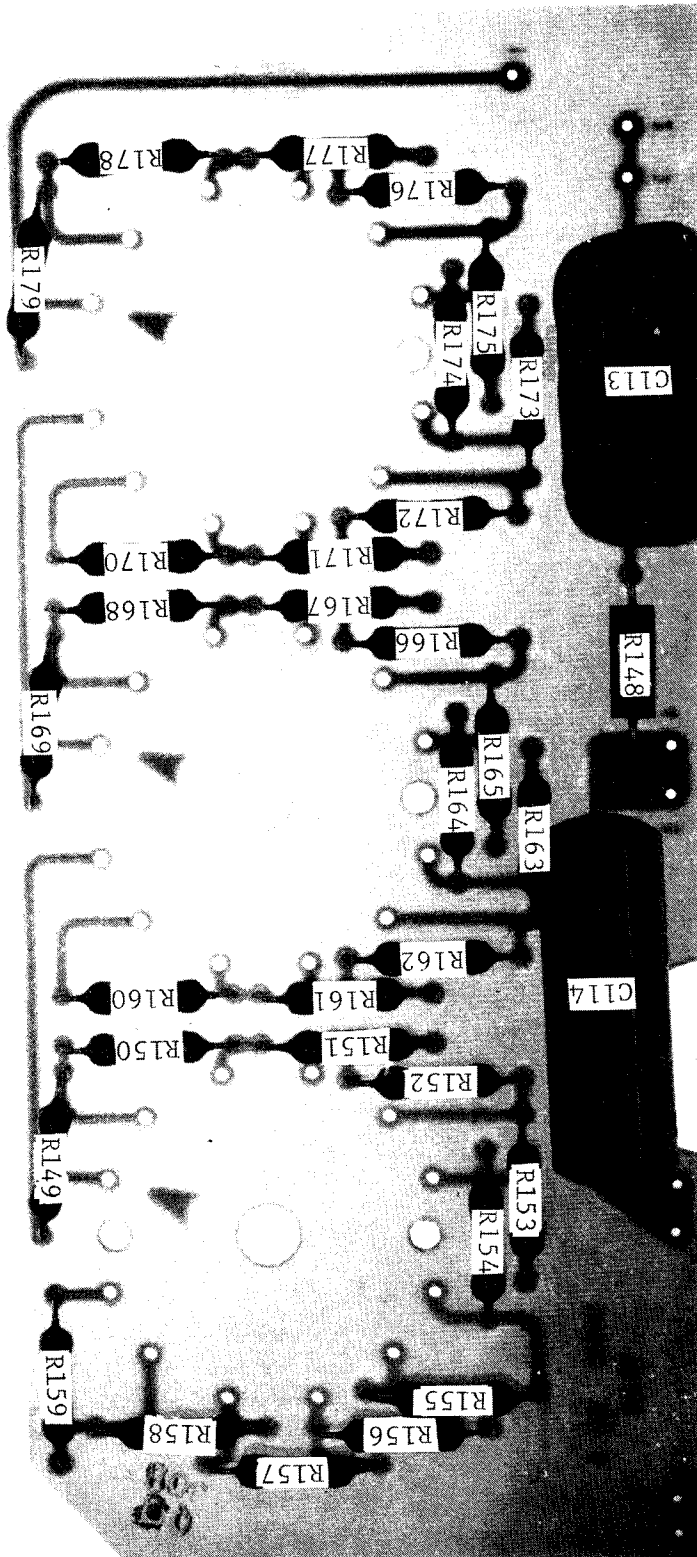
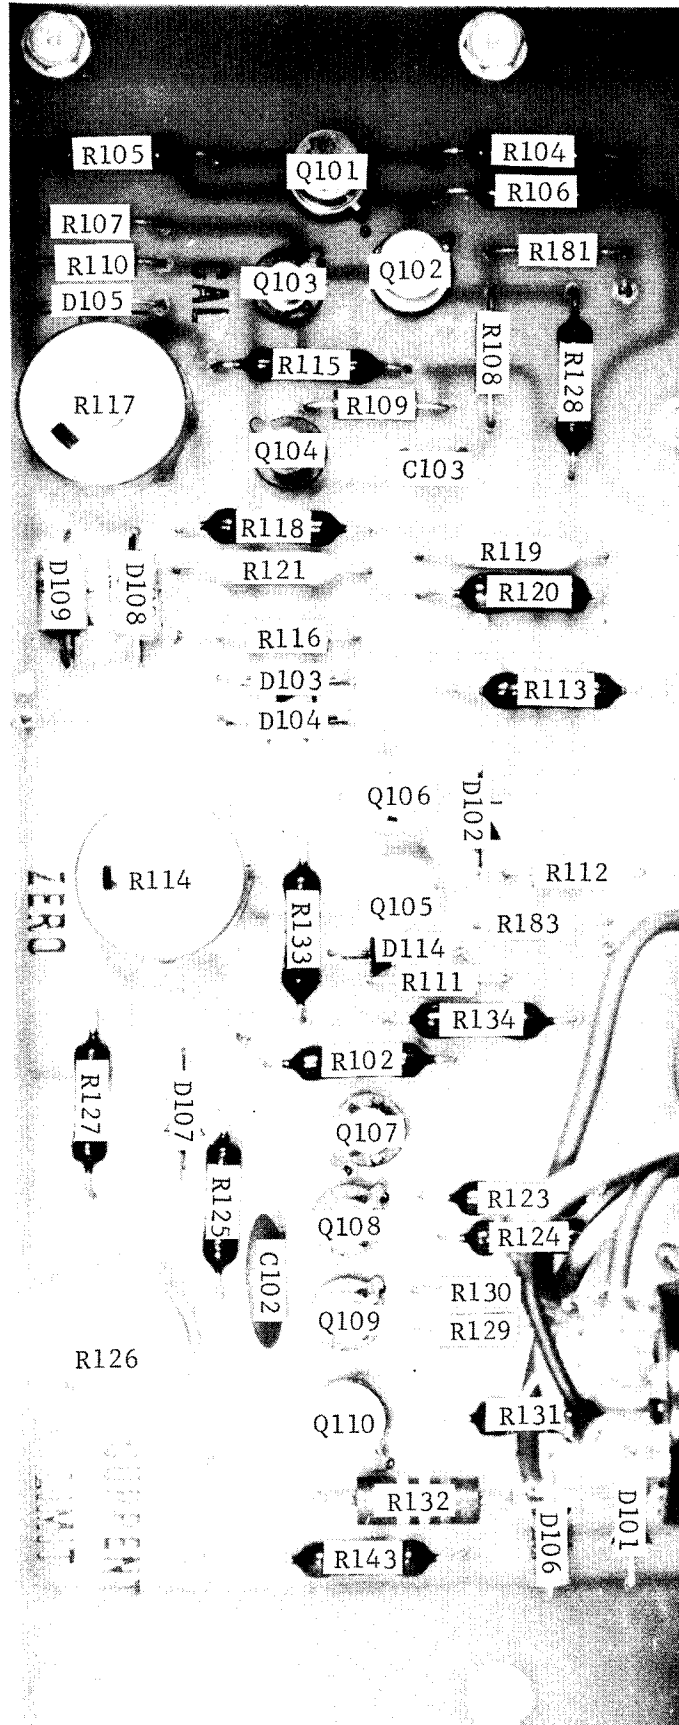

FIGURE 9. Chassis, Top View.
FIGURE 11. Component Layout, PC-117 (Part 1).
a. Removing tube V101 (Figure 9) from the socket unloads the high voltage and filament winding of the transformer.
a. To troubleshoot the voltage control amplifier, first remove the high voltage. Turn the ON Switch off. Remove tube V101 (Figure 9) from its socket and disconnect the plate cap. Make sure the plate cap is clear of all surrounding components. Place a shorting jumper across either diode D108 or D109 (Figure 11).
c. Connect the Model 153 between pin 5 of tube V101 and ground. Turn the Model 240A on. Adjust the ZERO potentiometer R114 (Figure 11). Turning the potentiometer should swing the voltage from approximately 0 to -36 volts. Set the potentiometer for -20 volts.
b. Set the front panel controls as in paragraph 4-7, b. Since there is no overload, there should be a reverse voltage across diode D107 (Figure 11). The amplifier should be in its normal mode.
b. In overload condition, the voltage between the emitter and collector of transistor Q110 (Figure 11) should be more than -105 volts. If it is and the lamp will not light, then the lamp is defective.
c. If -105 volts is not present, then either transistor Q109 or Q110 (Figure 11) or the associated circuitry is defective. Measure the voltages within the circuits to locate the trouble.
Connect the Model 153 to the Model 240A OUTPUT Receptacle and set it initially to its 10-millivolt range. Adjust the ZERO potentiometer, R114 (Figure 11), for zero output ± 1 millivolt.
b. The Model 662 should read the Model 240A output to $\pm 0.5\%$. If necessary, adjust the output using the CAL potentiometer R117 (Figure 11). If the potentiometer does not have sufficient range, add or remove jumpers across resistors R119, R120 and R121 (see schematic diagram 19197D).
c. For a quick check, measure the output voltage at several different settings. Adjust the CAL potentiometer R117 (Figure 11) for minimum percentage deviation from the dial setting.
Adjust the CURRENT LIMIT potentiometer R126 (Figure 11) until the output current is 12.5 milliamperes ± 0.2 milliamperes.